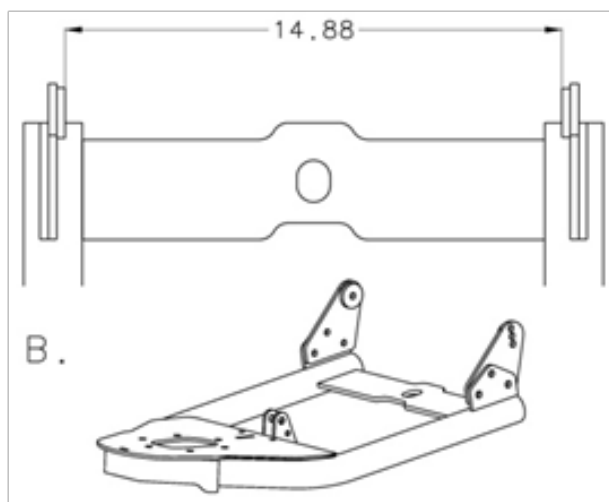

Figure 7
9. Install left and right plow bracket (A4, A5) to plow push tube assembly. Note: the brackets are installed to the inside of the push tube tabs. See figure 7.